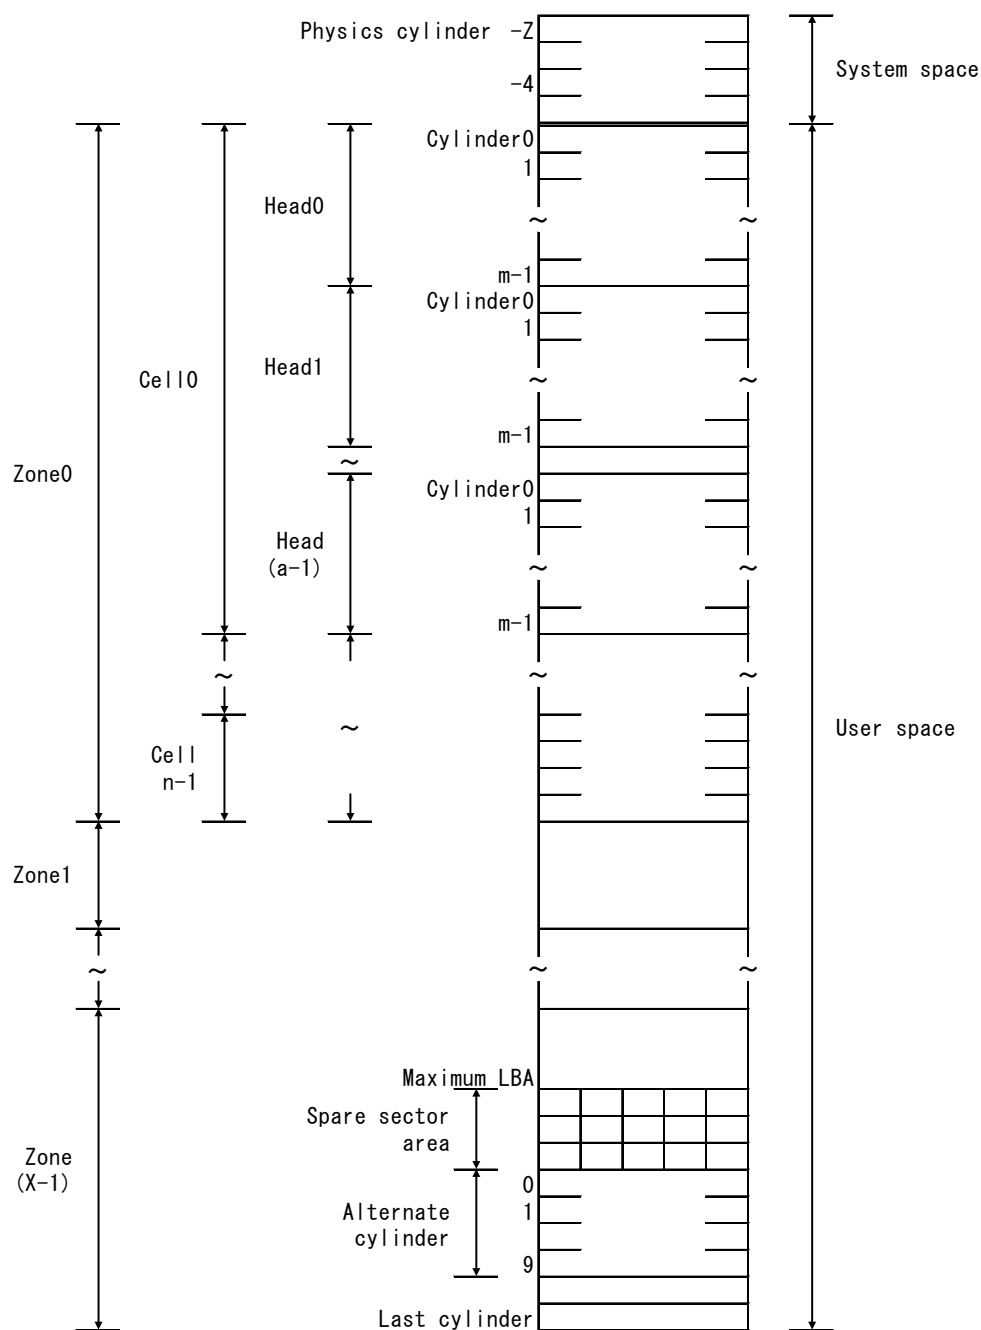

Figure 3.1 Cylinder configuration
The HDDs allocate cylinders to the user space, Internal test space, and system space. Figure 3.1 shows the cylinder configuration.
- 4) After blocks have been assigned in the same cell according to steps 1) to 3), subsequent logical data blocks are assigned in ascending order of cell number in the same way as in steps 1) to 3). Logical data blocks are assigned starting from track 0 in the next cell until the last cylinder (immediately preceding the alternate cylinder n-1 shown in Figure 3.1).